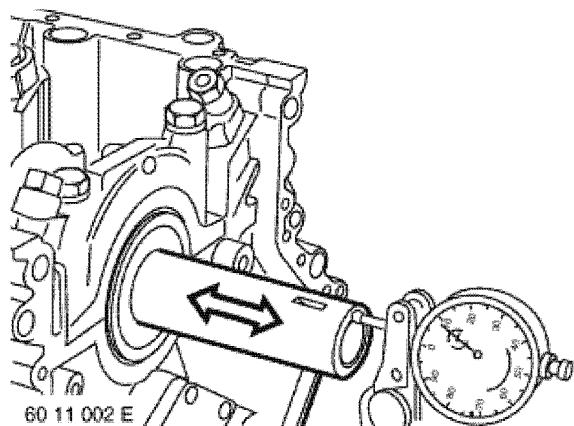

Figure 5-107
- Mount a dial indicator on the cylinder block. Move the crankshaft in and out to measure end play (**Figure 5-107**).